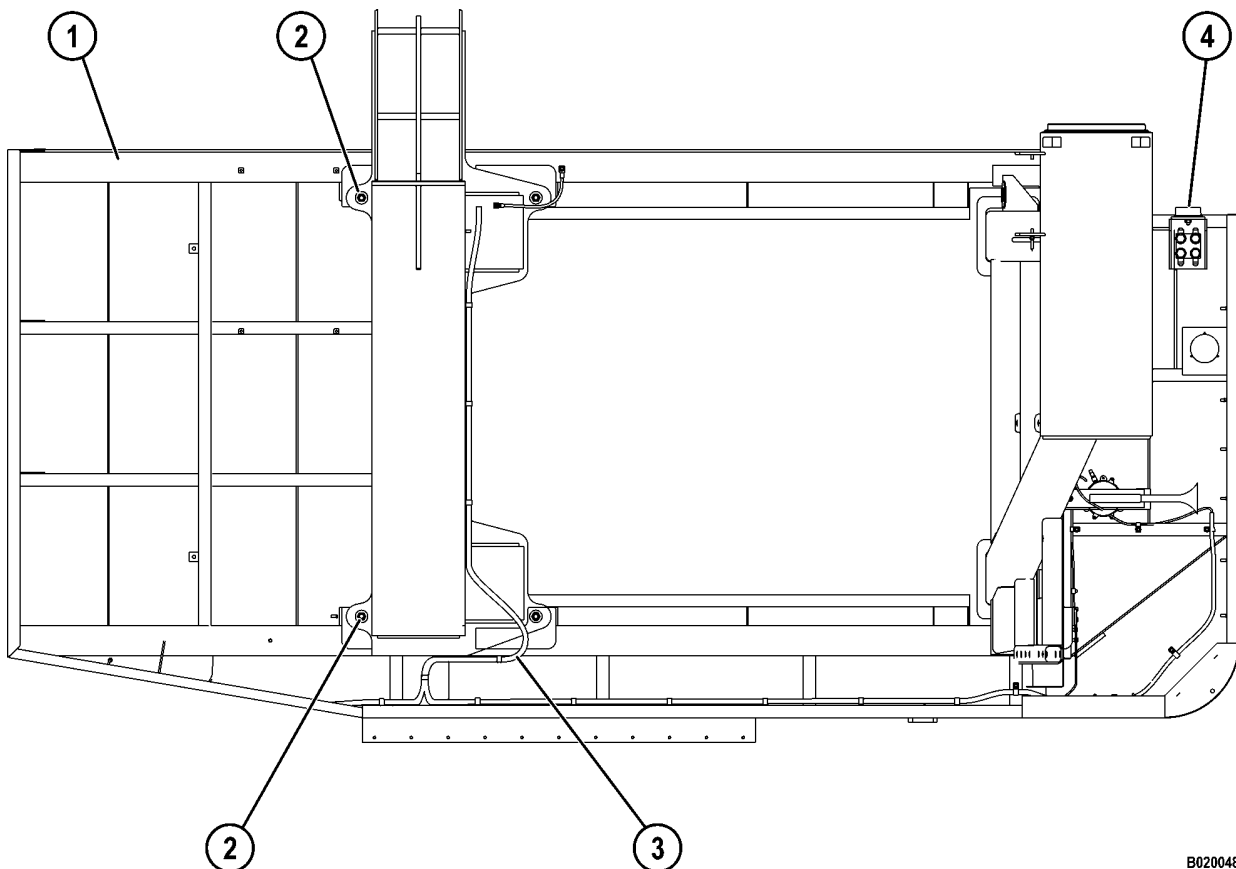

FIGURE 2-3. L.H. DECK STRUCTURE MOUNTING
2. Disconnect deck lighting harness (3, Figure 2-3). Remove any wiring harnesses, cables or hoses as needed. The lighting harness and clamps do not require removal.
4. Remove deck mounting hardware (2) and any shims at the deck support and the front upright.
6. Carefully lift deck structure (1) from the deck supports.